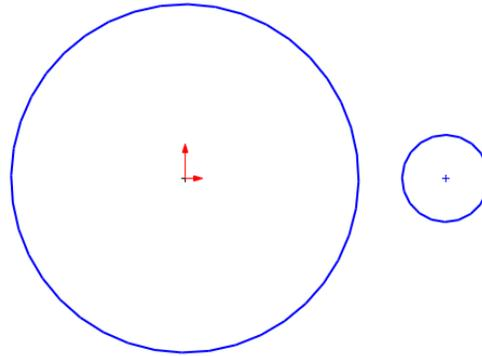

Figure 3-5 Sketch after drawing circles
- Draw outer loop of the sketch, refer to Figures 3-5 through 3-11.
9. Move the cursor horizontally towards the right and click the left mouse button when the radius above the cursor shows 10 mm. Next, exit the tool by right-clicking in the drawing area and choosing the **Select** option from the shortcut menu. Figure 3-5 shows the sketch after drawing the circles of 80 mm and 20 mm diameters.